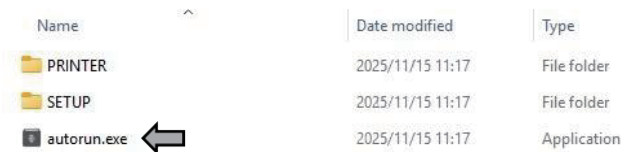

Fig.15
① Navigate to the driver download link at www.label-download.com, download and extract the driver package. Then double-click the installation file named “autorun.exe” to begin installation (see Figure 15).